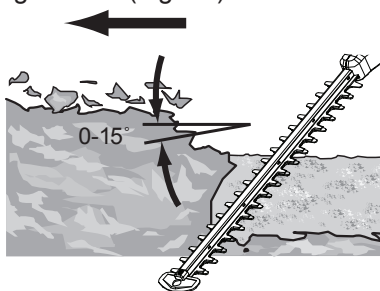

Fig. 13
9. After cutting the sides proceed to the top. Try to keep the cutting device angled at approximately 15° to the cutting surface (Fig. 13).